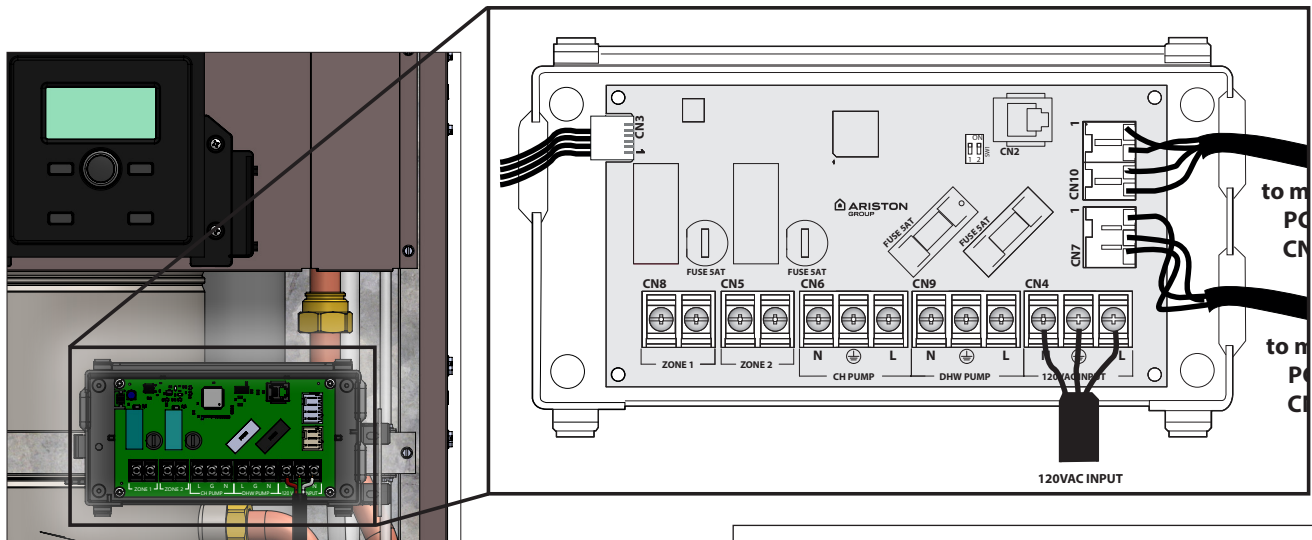

Figure 48 - 120V Connections for DHW and CH Circulators
6. Connect the field wiring to the respective output; see Figure 48. **NOTE:** CH PUMP & DHW PUMP output 120V directly. **NOTE:** ZONE 1 & ZONE 2 outputs are dry contact; power must be applied to one side. See examples in Figures 16-21.